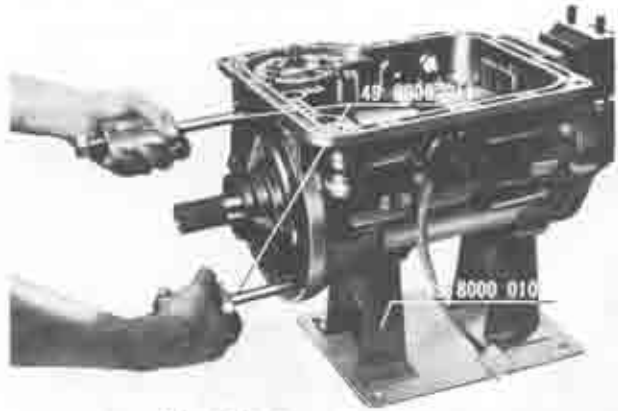

Fig. 2-14 Removing oil pump
10. Pull out the oil pump with the oil pump remover (49-8000-011) as shown in Fig. 2-14.